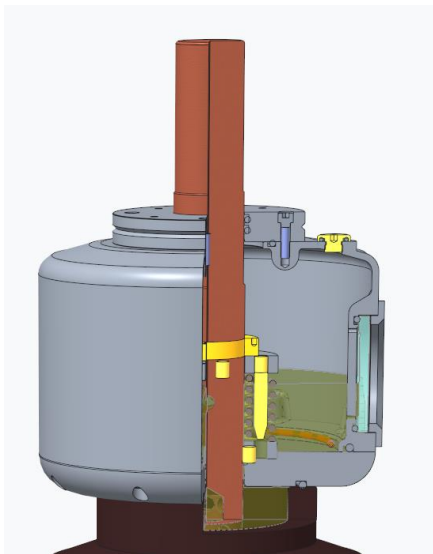
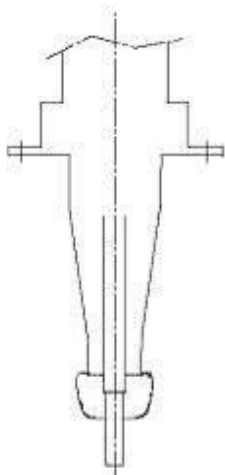

Fig. 15
Fig. 16
In this type of execution, the current is carried directly by the central bushing on-piece conductor from the H.V. terminal (fig. 15) to the bottom one (fig. 16).
- Fix shield (fig. 16): in this case the shield can not be removed because it is fixed to the bushing's body